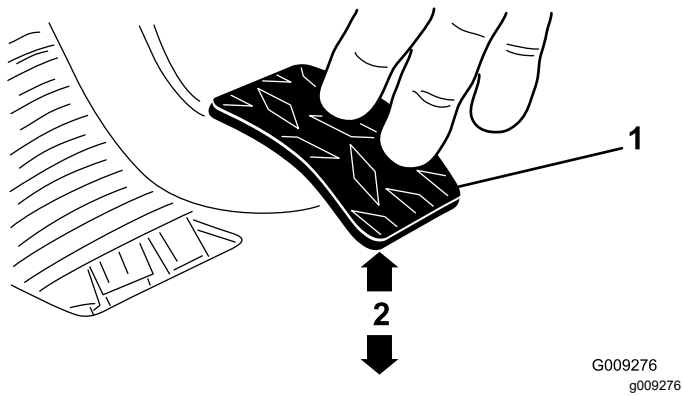

Figure 65
3. Adjust the jam nuts or ball joint until the rear edge of the clutch pedal is 9.2 to 9.8 cm (3-5/8 to 3-7/8 inches) from the top of the floor plate diamond pattern, when you apply 1.8 kg (4 lb) of force to the pedal (Figure 65).